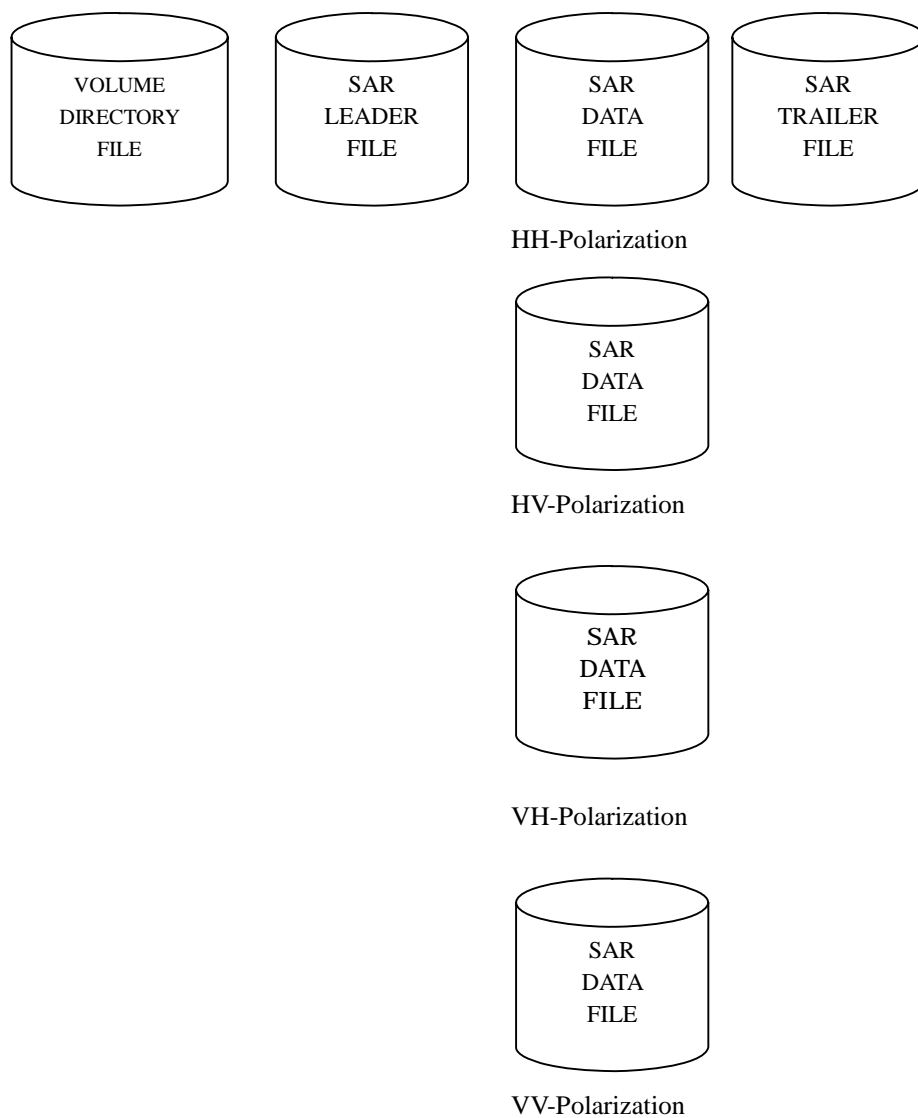

Figure 3-3 Configuration of Level 1.0 (Polarimetry mode)
- Figure 3-3 Configuration of Level 1.0 (Polarimetry mode)
Figure 3-1 to Figure 3-3 show the file structure for PALSAR level 1.0.